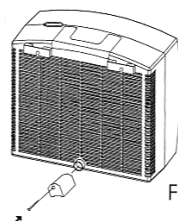

FIG. 7
1. Apply the spacer to the outdoor unit. FIG 7